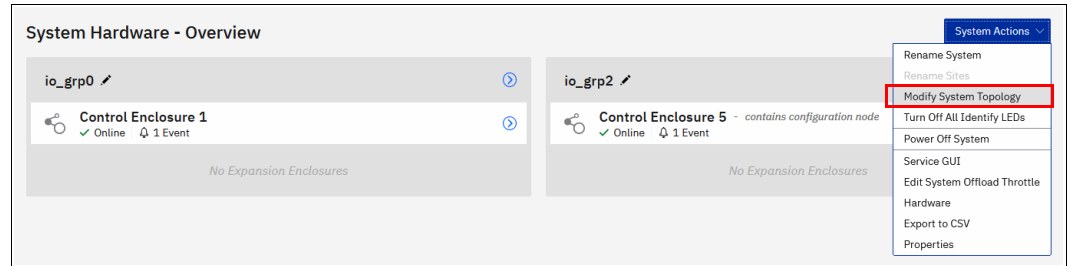

Figure 3-39 Starting the Modify System Topology wizard
1. In the GUI, click **Monitoring** → **System Hardware** to open the System - Overview window. Click **System Actions** and expand **Modify System Topology**, as shown in Figure 3-39.